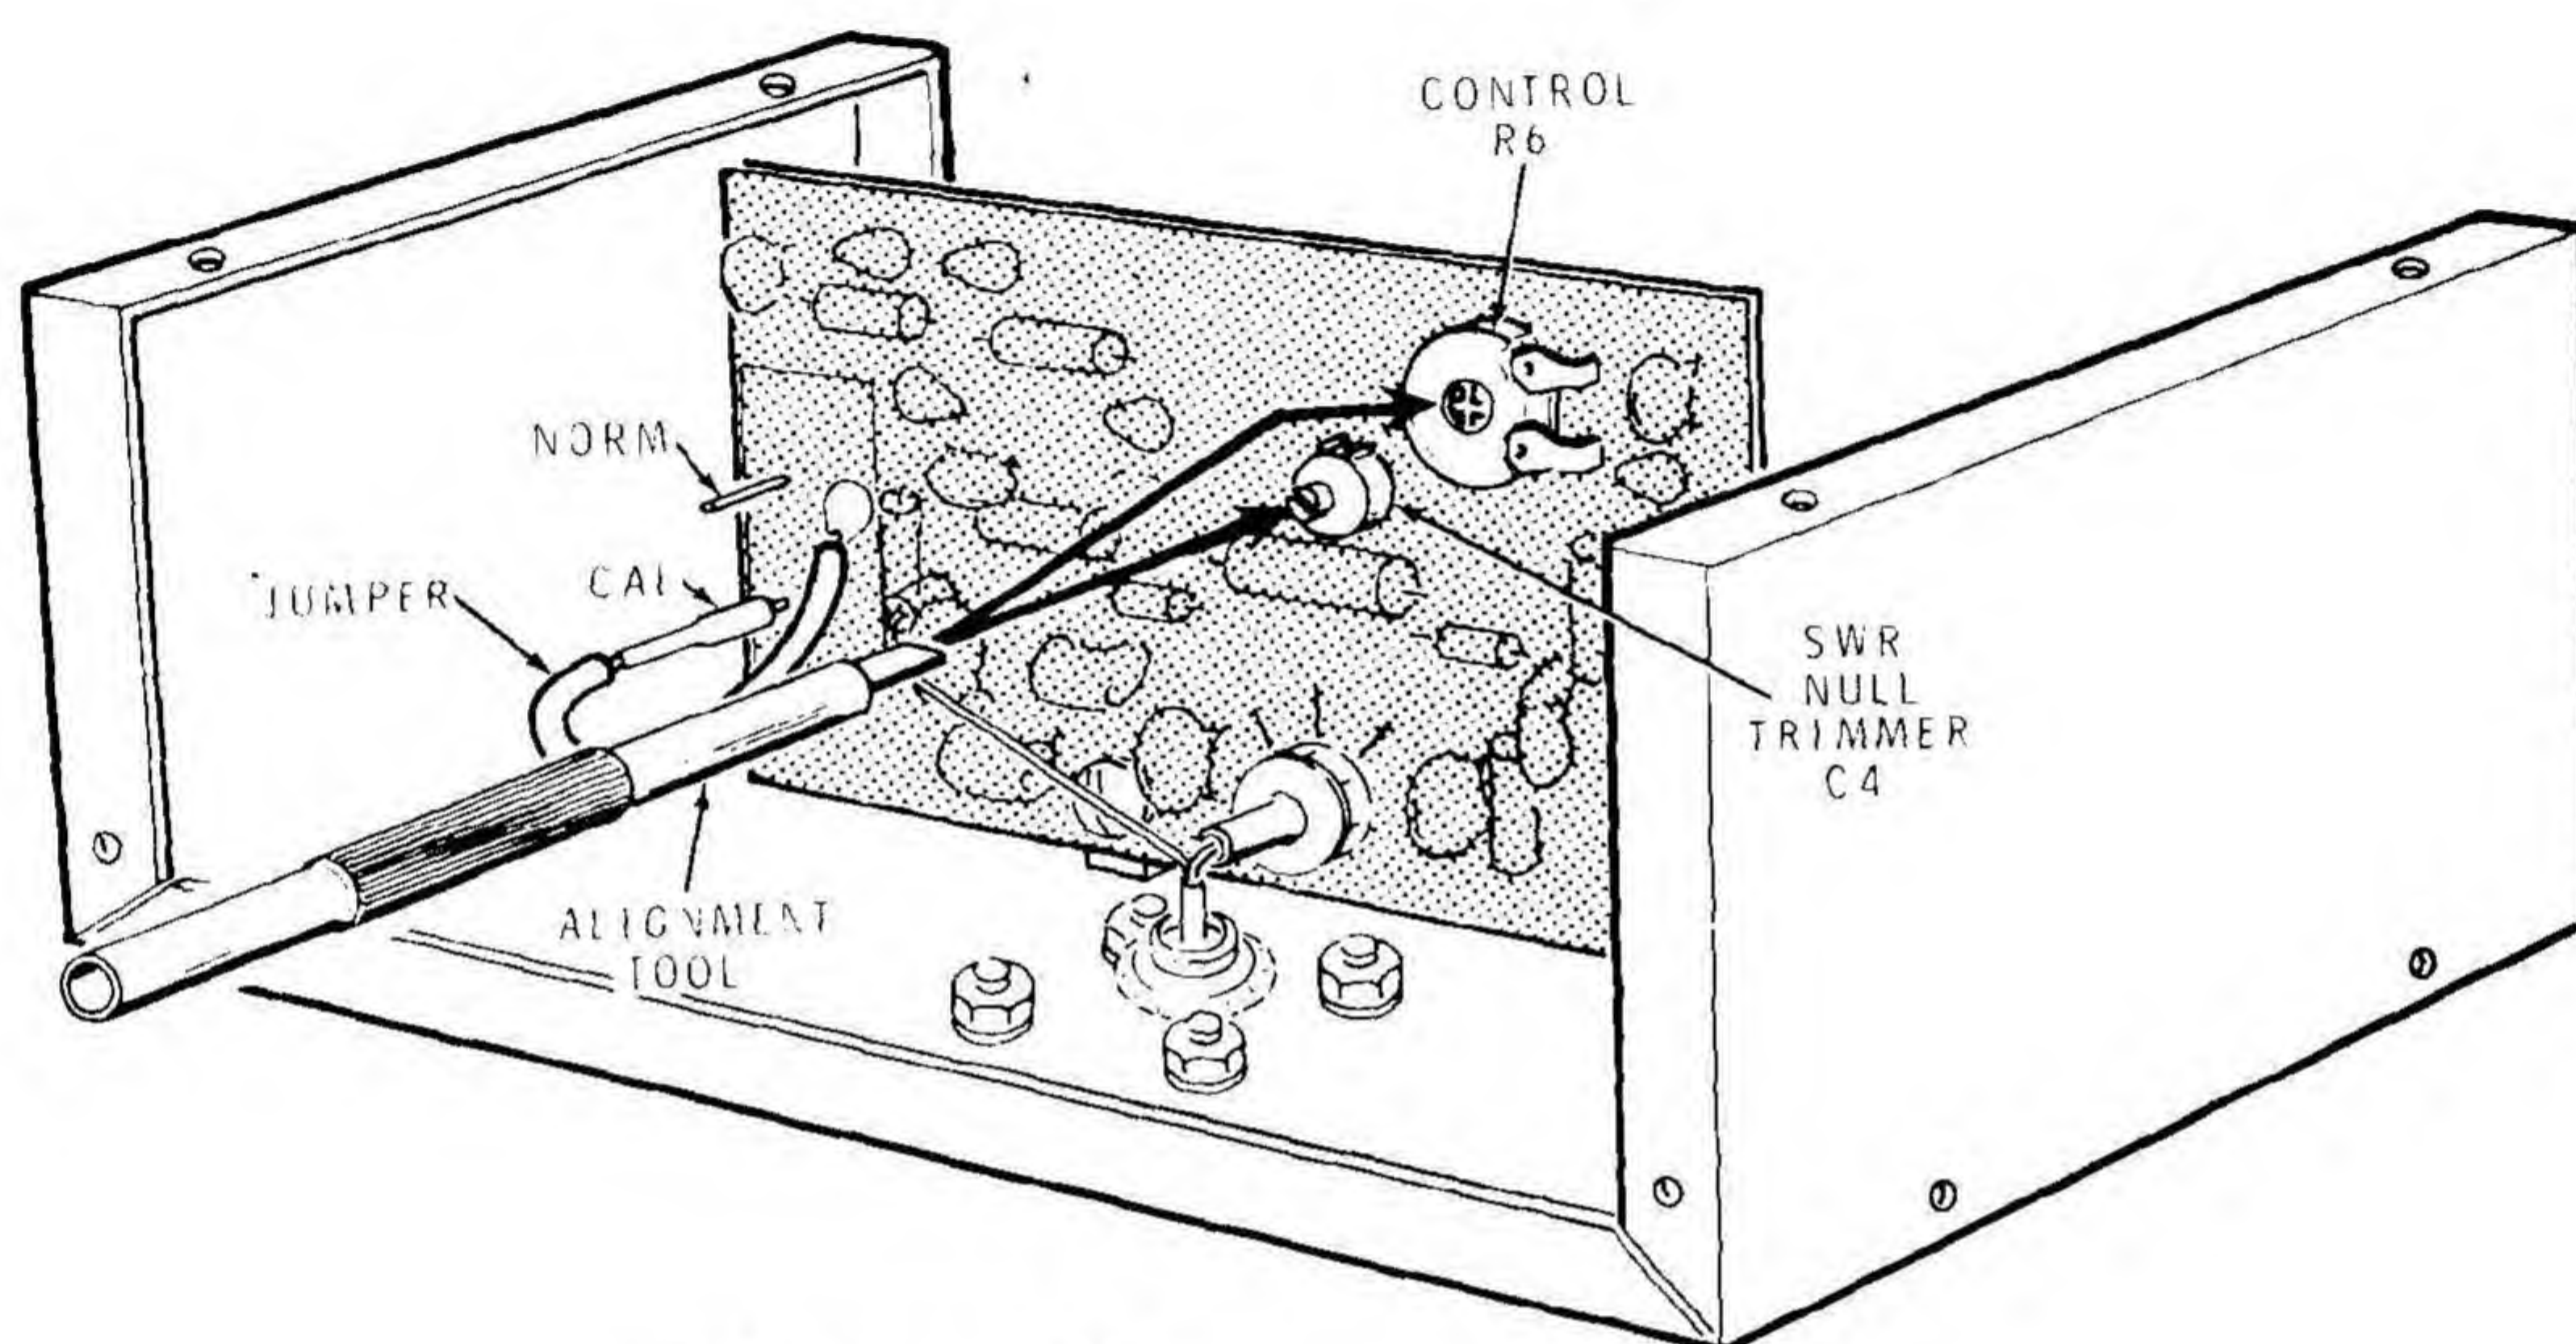

Figure 3
- () Connect the CALIBRATION JUMPER on the remote chassis circuit board to the CAL pin. (See Figure 3 fold-out from this page.)
- () Refer to Figure 3 and adjust SWR NULL trimmer C4 on the circuit board for the best null or greatest dip of the meter needle. This reading should be at or near zero. NOTE: Use only the alignment tool (nut starter) for this adjustment.